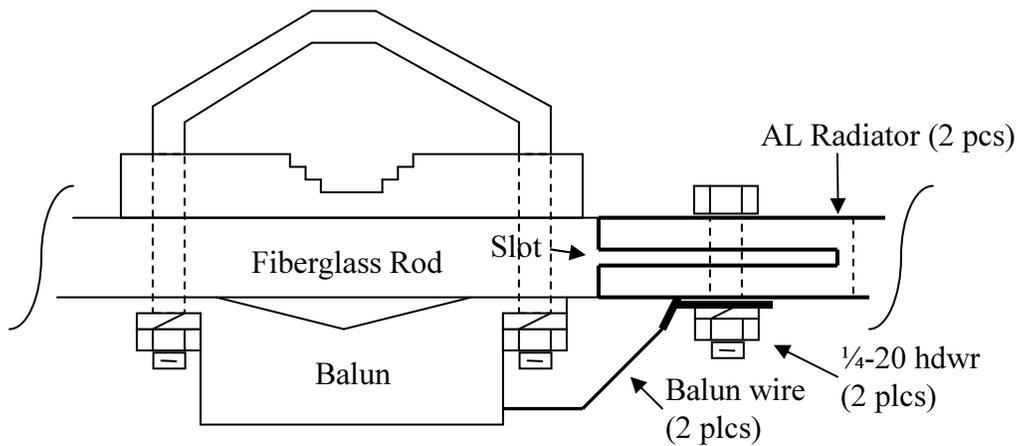

Figure 3: Radiator Tube Assembly – Top View
- Slide the 1-1/8 x 60" aluminum radiator tubes over the center insulator/balun assembly with the slot on each aluminum tube on the topside of the fiberglass rod/balun assembly. Insert the 1/4-20 bolts through the aluminum tube/fiberglass assembly and through the balun lugs. Add the 1/4-20 split lock-washers and nuts and tighten securely. See Figure 3.